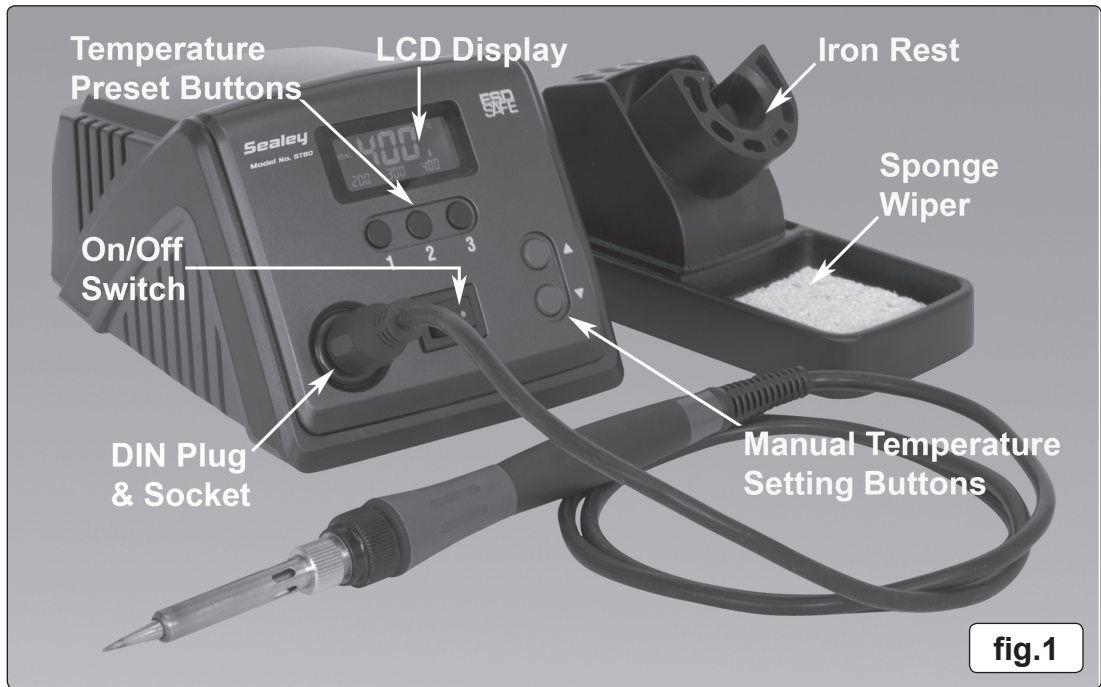

fig.1
- 4.1.1. Push the DIN plug attached to the iron lead into the socket on the front panel of the control unit (fig.1).
- 4.3.2. With the normal settings applied, the temperature can be adjusted by means of the ▲ and ▼ buttons (fig.1).